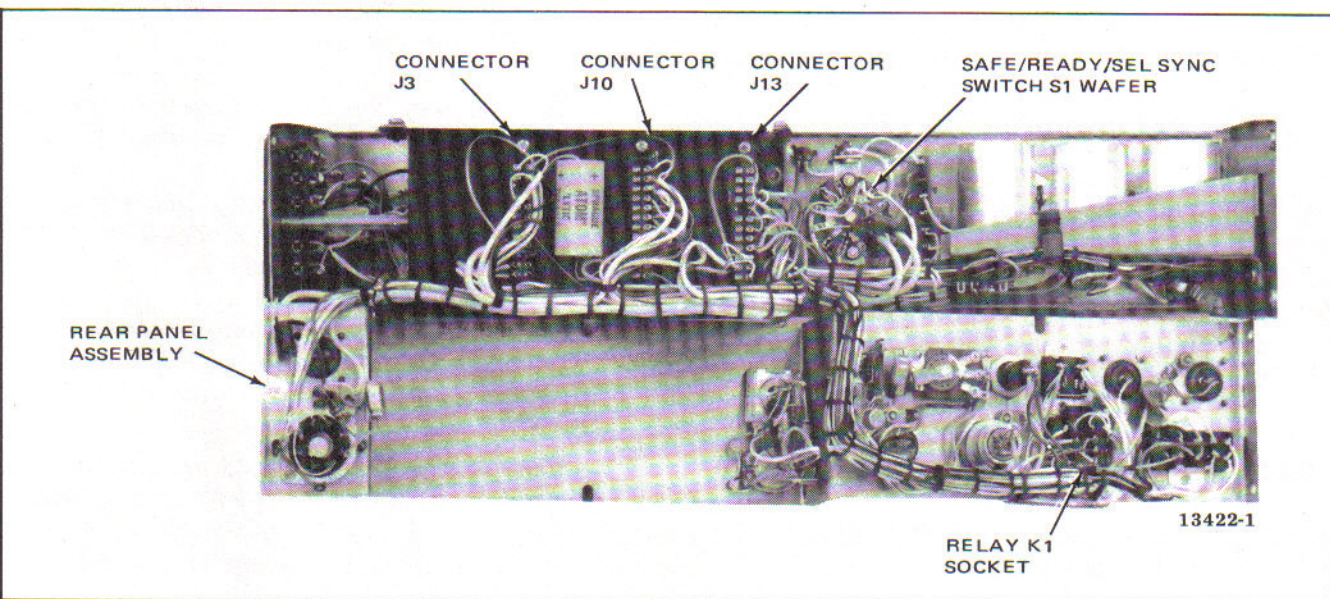

Figure 5. AG-440A, AG-440B and MM-1000 Record/Reproduce Unit
5. Remove two screws from each side of the rear panel to gain access to the rear panel assembly as shown in Figure 5.
15. Modify the socket connections of relay K1 (Figure 5) as follows: